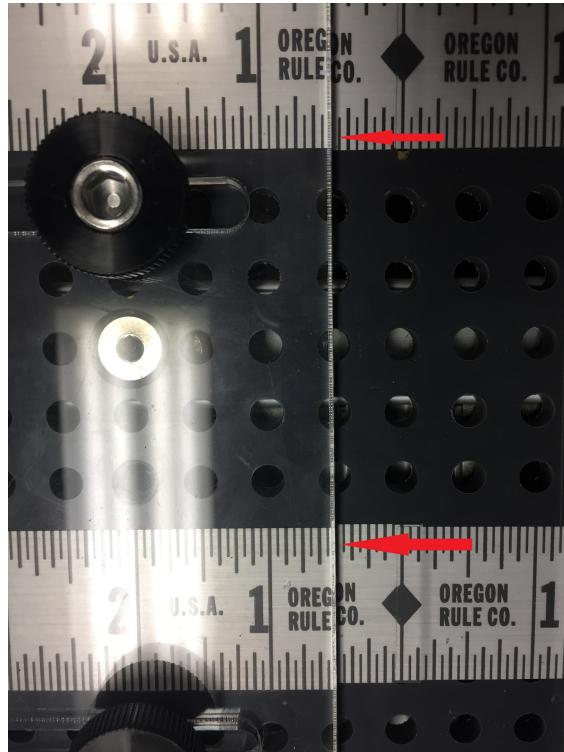

Figure 2.2: Secure the Foam Step 2
- Set one acrylic plate half of the width of the foam so that the foam will be centered on the work panel. Make sure both ruler reads the same so that the acrylic plate is in the vertical direction as shown in fig 2.2 below.